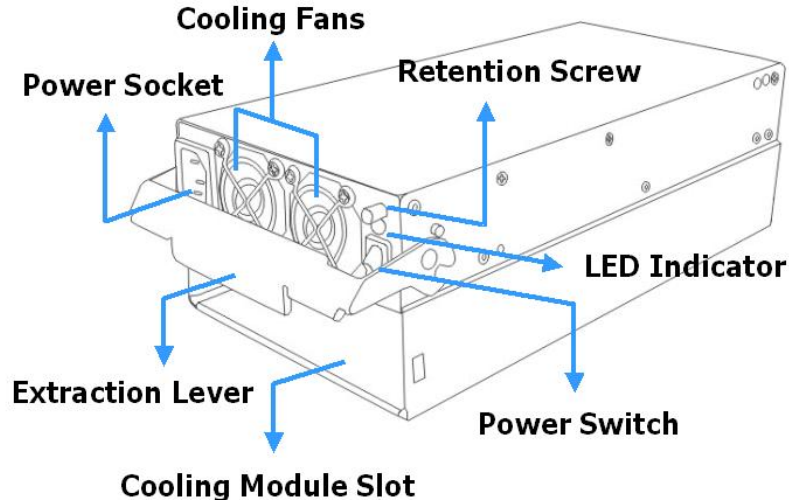

Fig. 2.1 PSU Parts Identification
1. Turn off the PSU. The power switch is located at the rear of the PSU. (See Figure 2.1)